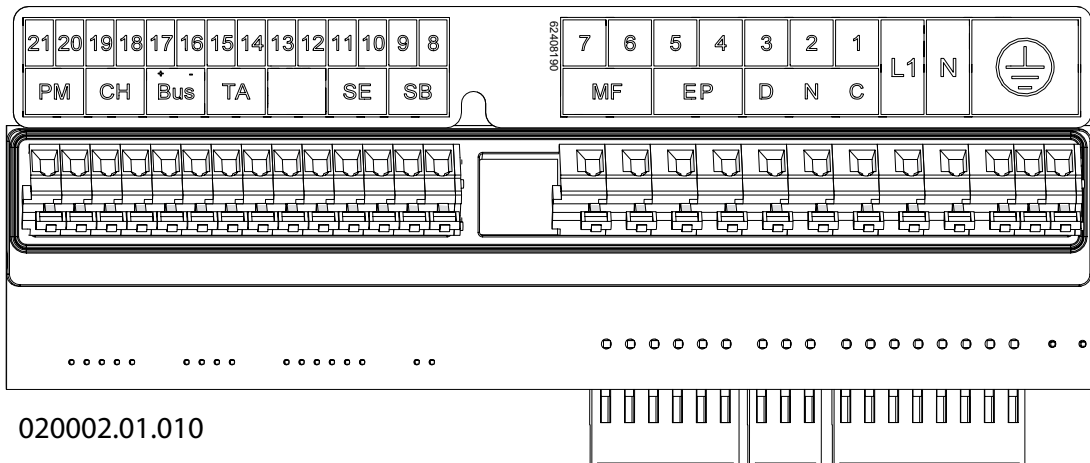

Figure 5-11 - Electric connections
#### Key for figure 5-11
Proceed as follows to connect the power supply cable (refer to figure 5-11):
Proceed as follow for the electric (refer to the figure 5-11):
- connect the cable to the terminals "14" and "15" of the appliance (see figure 5-11 "TA").
Proceed as follows for the electric connection (refer to the figure 5-11):